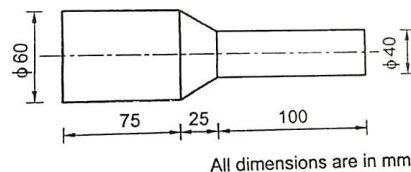

Fig 1
11. A mild steel component shown in figure.1 has to be made from a stock of 220mm long and calculate the maximum cutting speed for (i) facing (ii) turning for all surfaces (iii) parting off. The maximum spindle speed of the lathe being used is 500 rpm.